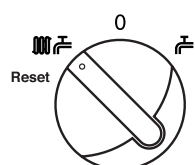

Fig. 12
1. With the selector switch in either Position (i) or Position (ii) (Figs. 12 & 13) the pump will automatically operate for 1 minute in every 24 hours to prevent sticking.